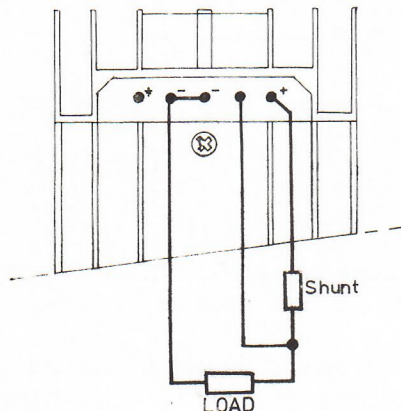

Figure 10.
1. Connect shunt resistor according to figure 10.